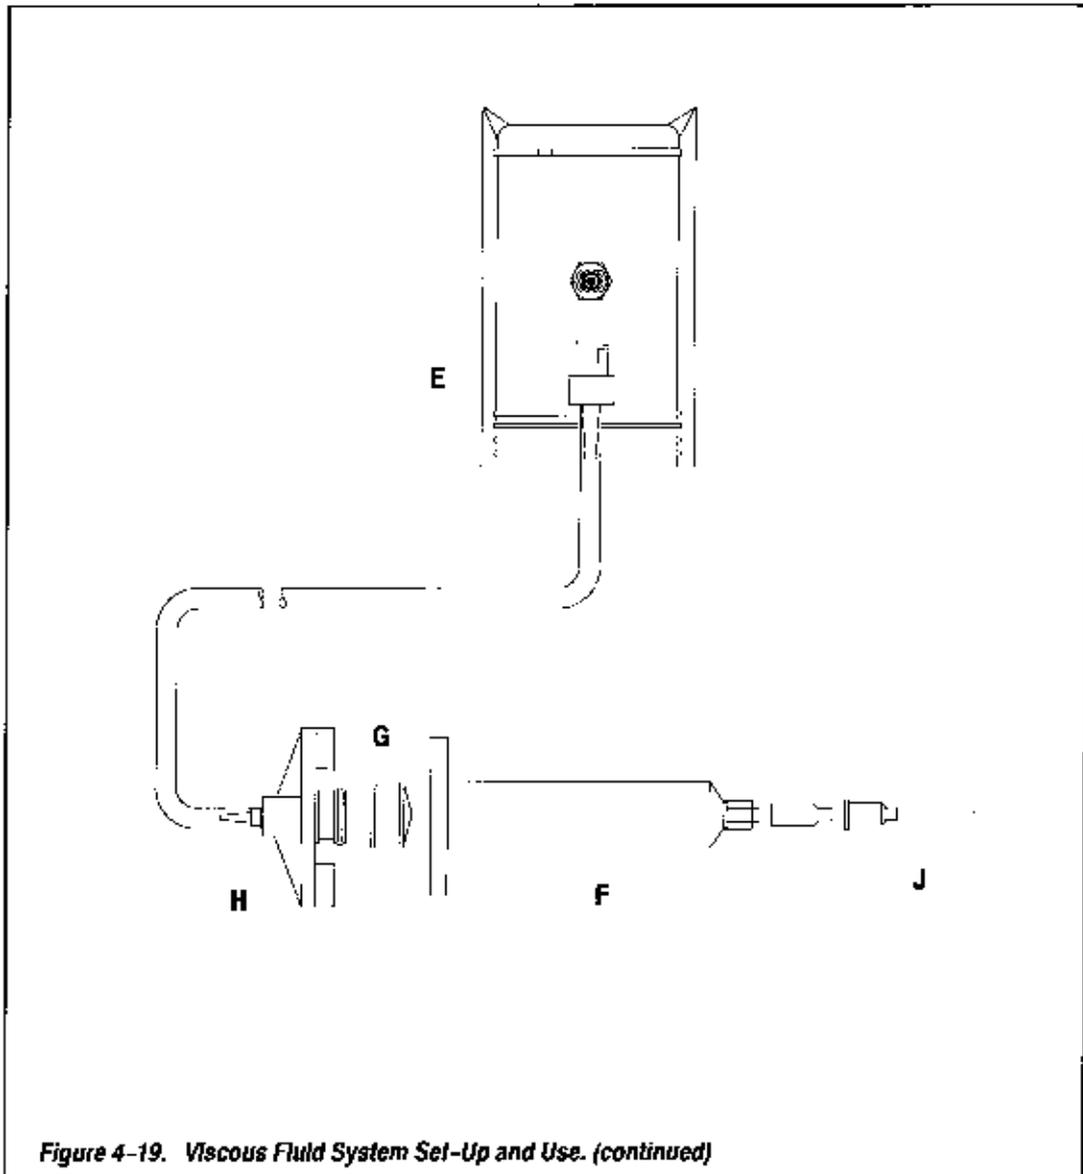

Figure 4-19. Viscous Fluid System Set-Up and Use. (continued)
- A. Press the **TOOLS** selection tab at the bottom of the screen. The tabs will expand upward (see figure 4-19).